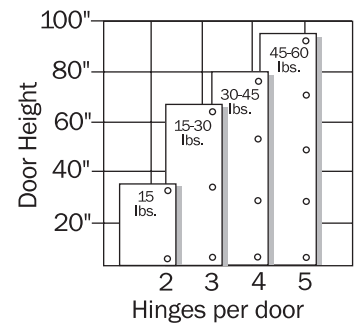

Fig. 1
- Decide on the number of hinges you want to use and mark their centerline locations on the back of the door (see Figure 1).